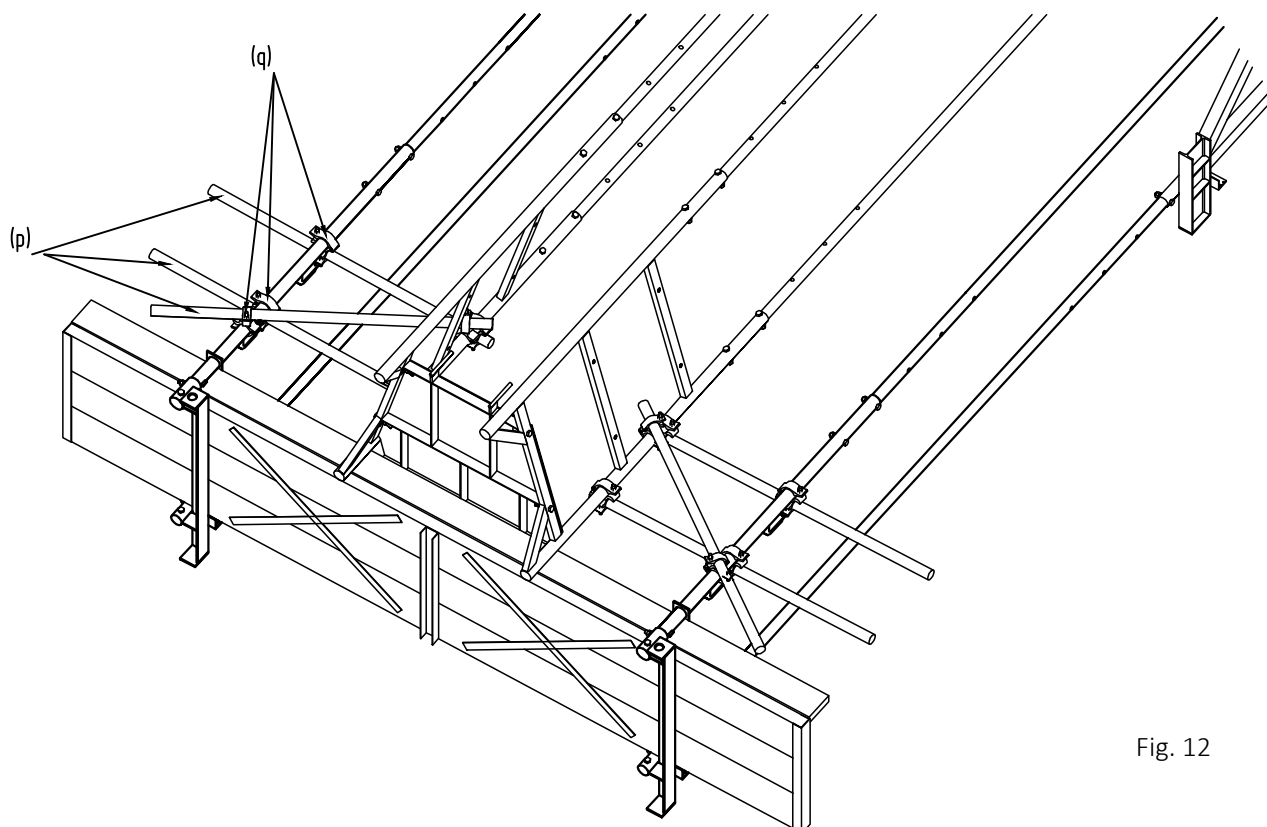

Fig. 12
- 12 Fasten scaffold tubes 1500 mm long (p) [Part No. 501500] to the suspension tubes of the lower platform and the ladder ascent each with 2 swivel couplers 60x48 (q) [Part No. 510600]. Attach 4 tubes horizontally as guard rail, 2 tubes diagonally as stiffeners (see Fig. 12).